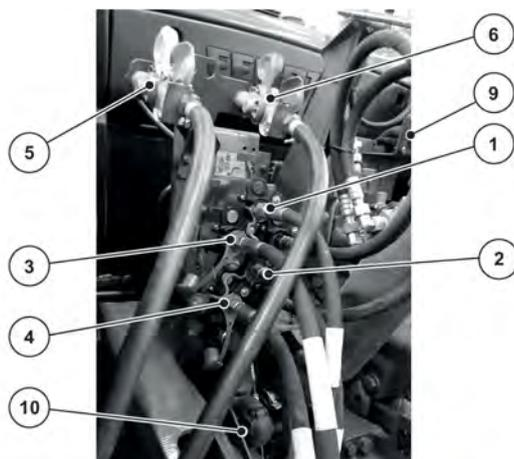

Fig. 26: Order of connecting the machine lines to the tractor
- ▶ Connect hydraulic lines [3] and [4] of the support stand to the hydraulic control unit of the tractor. See Fig. 26
- ▶ Observe the connection order: See *Fig. 26 Order of connecting the machine lines to the tractor*